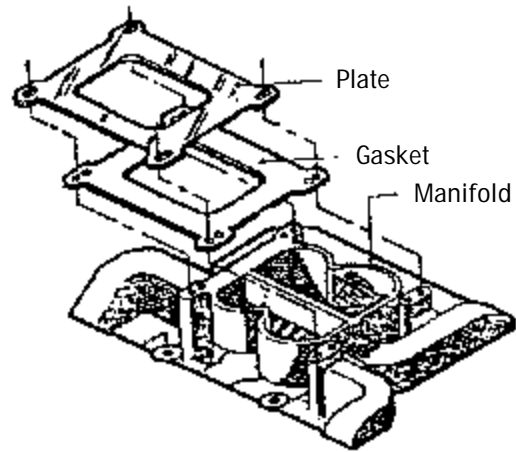

Figure 2 - Square-Bore Carburetor Adapter Plate
- **CARBURETOR PLATES AND GASKETS:** For square-bore carburetor installations, install the supplied carburetor plate and gasket to seal the carburetor base (See Figure 2).